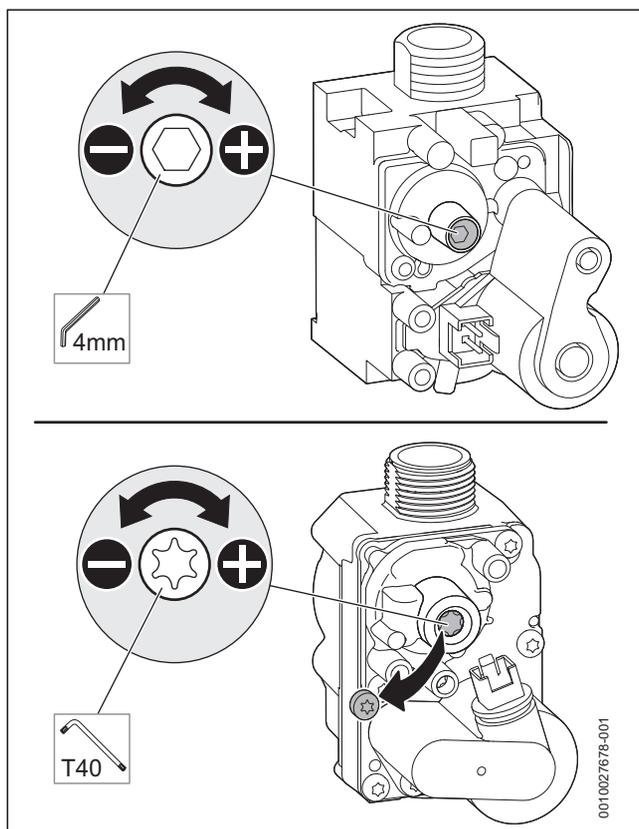

Fig. 77 Setting the CO₂ or O₂ content (above: SIT valve, below: Honeywell valve)
- ▶ Remove the seal from the adjusting screw of the gas valve (only gas valve is shown in the below Figure 77) and set the CO₂ or O₂ content for minimum rated output.